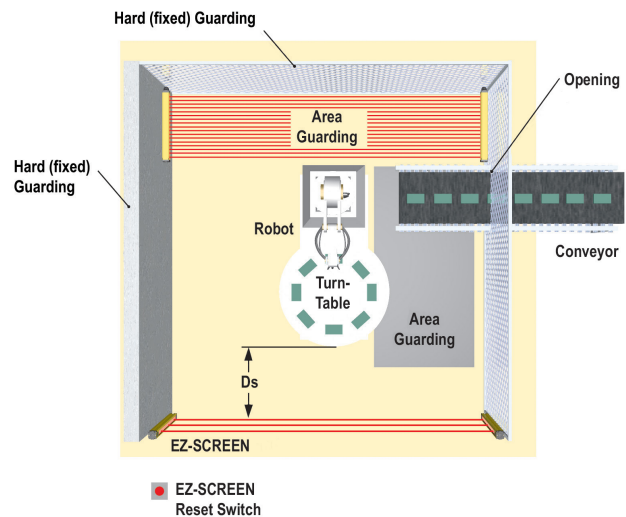

Figure 4. An example of supplemental safeguarding
Additionally, the hazard cannot be accessible by reaching around, under, or over the defined area. To accomplish this, supplemental guarding (mechanical barriers, such as screens or bars), as described by ANSI B11.19 safety requirements or other appropriate standards, must be installed. Access will then be possible only through the defined area of the EZ-SCREEN Type 2 System or through other safeguarding that prevents access to the hazard (see *Figure 4* on page 15).
*Figure 4* on page 15 shows an example of supplemental safeguarding inside a robotic work cell. The EZ-SCREEN Type 2, in conjunction with the hard (fixed) guarding, is the primary safeguard. Supplemental safeguarding (such as a horizontal-mounted safety light screen as an area guard) is required in areas that cannot be viewed from the reset switch (for example, behind the robot and the conveyor). Additional supplemental safeguarding may be required to prevent clearance or trapping hazards (for example, a safety mat as an area guard between the robot, the turntable, and the conveyor).